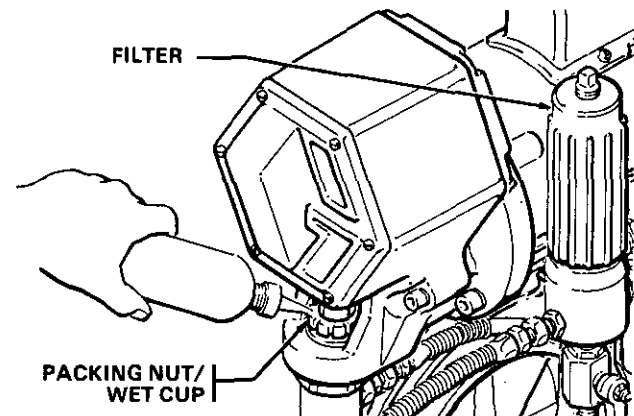

Fig 2
2. **Fill Packing Nut/Wet-Cup** (See Fig 2.)